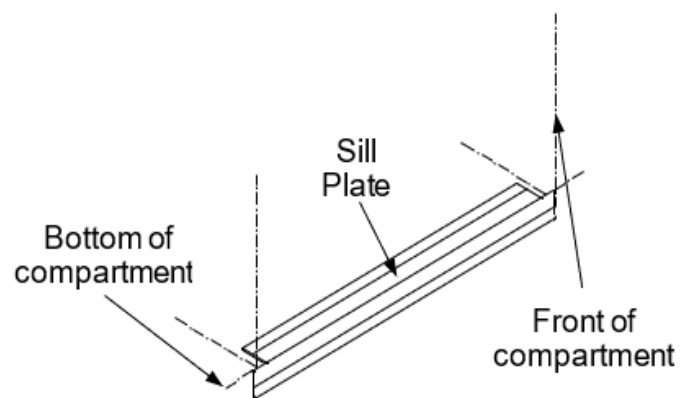

Fig. 3
- a) Place the sill plate in the center of the bottom compartment. The notches should be on the top, as shown in Fig. 3.